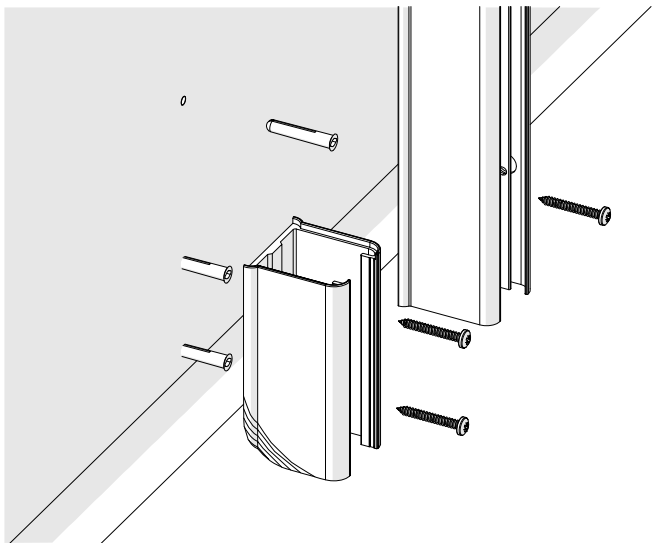

Fig. 1.2
- For safety flooring, the wall comps sits on 10-010-138. Trim this part to suit the curve of the flooring. Cut 100 mm off the bottom of the wall comps. *Figure 1.2*